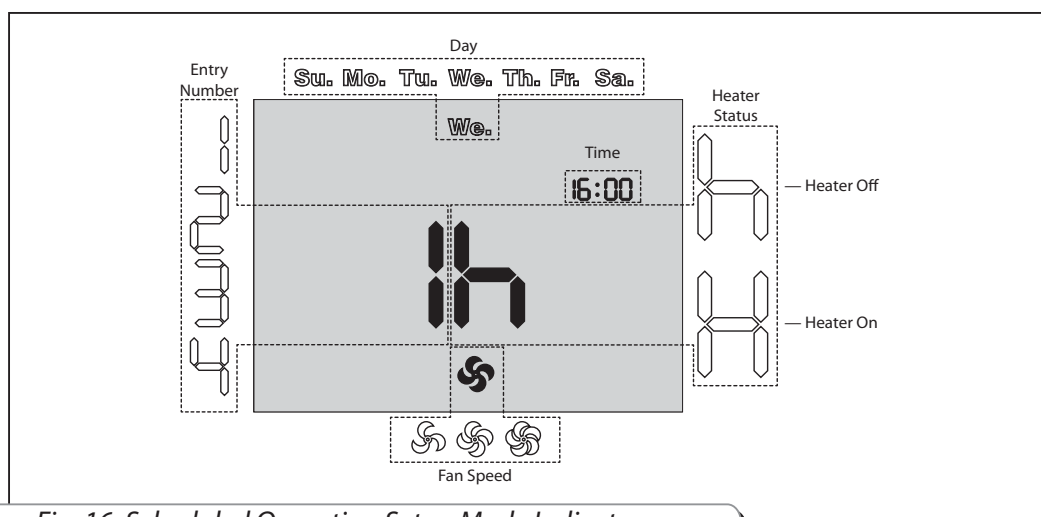

Fig. 16. Scheduled Operation Setup Mode Indicators
On elapsing of the filter replacement interval (3 000 hours) the temperature indication on the wall-mounted control panel display screen will be substituted by the **F** filter replacement alert (Fig. 16).
- Scheduled Operation Setup Mode Parameters (Fig. 16):